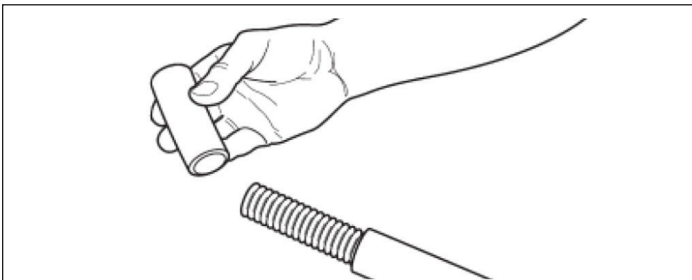

Figure: 1-5
7. Remove cut portion of the sleeve (Figure 1-5).